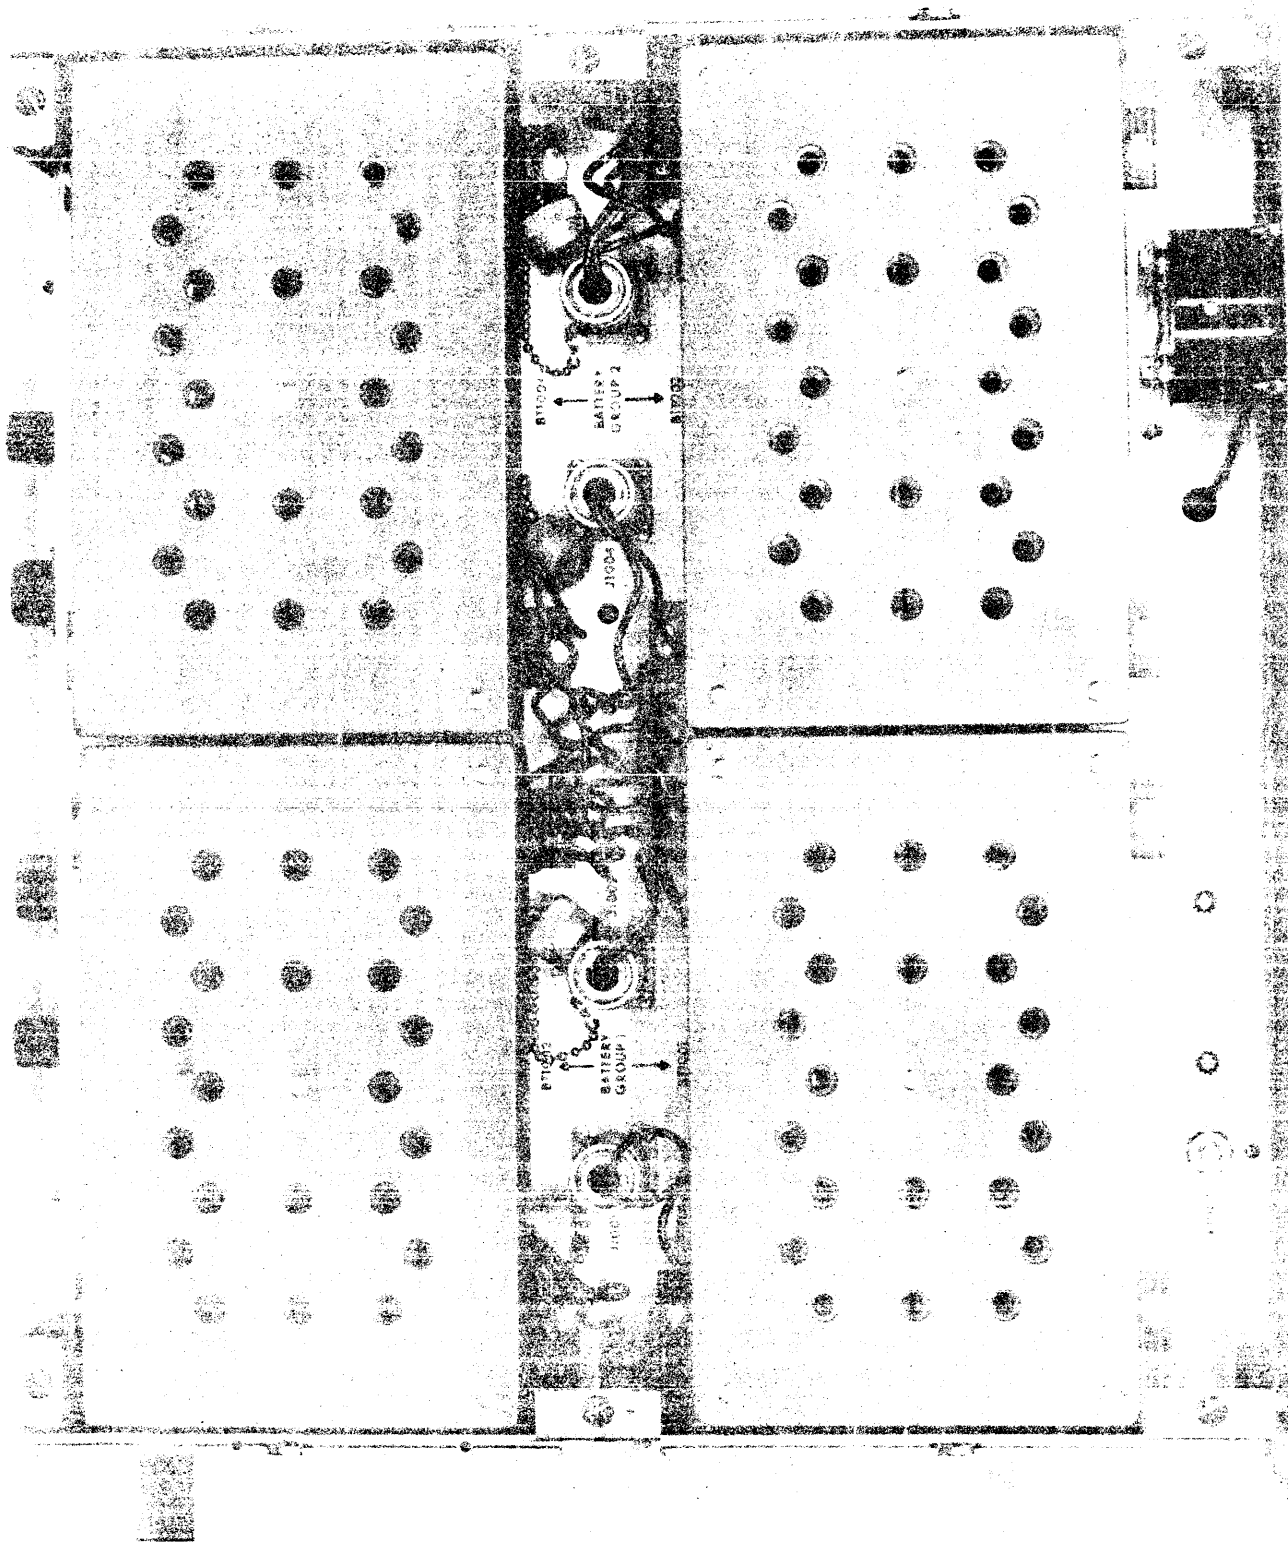

Figure 5-1. Battery Power Supply, Top View
a. GENERAL. - Corrective maintenance is essentially The Technical Materiel Corporation's factory adjustment procedure as modified for use in the field. Corrective maintenance also consists of replacing defective fuses, resistors and batteries. Figures 5-1 and 5-2 illustrate the major components of the BPS.